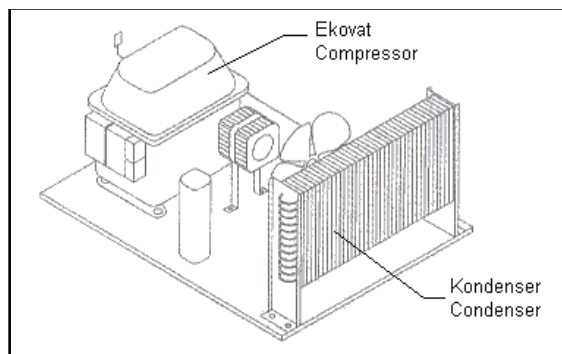

Figure-1
- Because any dust accumulated on the condenser can prevent the device from operating efficiently, clean the dust on and around the condenser using a soft brush or vacuum cleaner once a fortnight. (Figure -1)